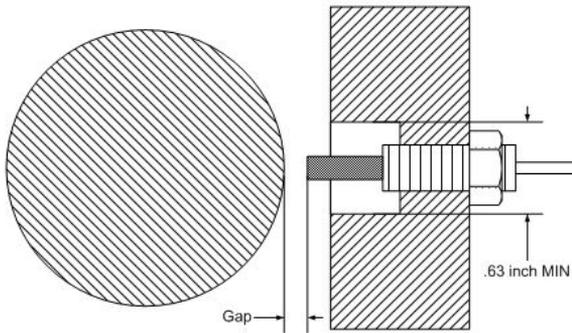
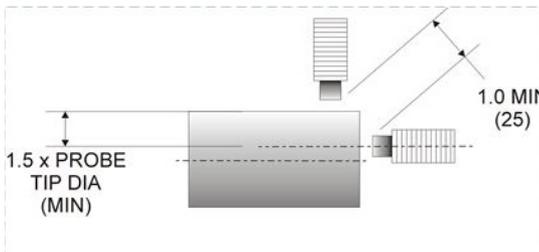

Fig. 1
Fig. 2
1. For radial vibration measurements, mount the probe with its axis radial to the shaft with its tip approximately .050" (1.25 mm) from the surface of the shaft. The probe tip must be provided with sufficient clearance from surrounding metal to prevent an erroneous output. As a minimum, the clearance diameter should be .63" (16 mm) for the full length of the probe tip. For an 11mm probe, the minimum clearance should be .88" (22mm). See Figure 1. For exact gapping procedure see the section concerning calibration. To prevent cross-feed between two probes mounted in the same vicinity, at least 1" (25 mm) spacing between the probe tips should be maintained. See Fig. 2 & 3.